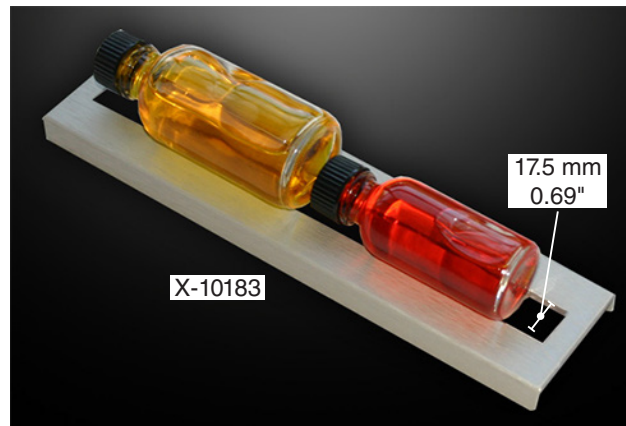
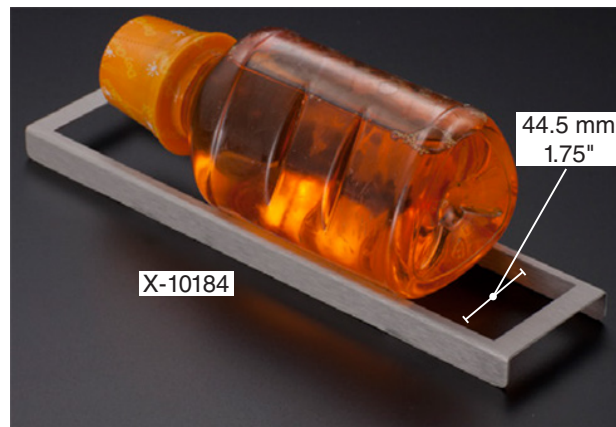

Figure 12.5q: Holder is slotted to hold narrow cylindrical specimens
Figure 12.5r: Holder is slotted to hold wider cylindrical specimens
- Special holders are available to mount cylindrical objects such as bottles (Figure 12.5q and Figure 12.5r).